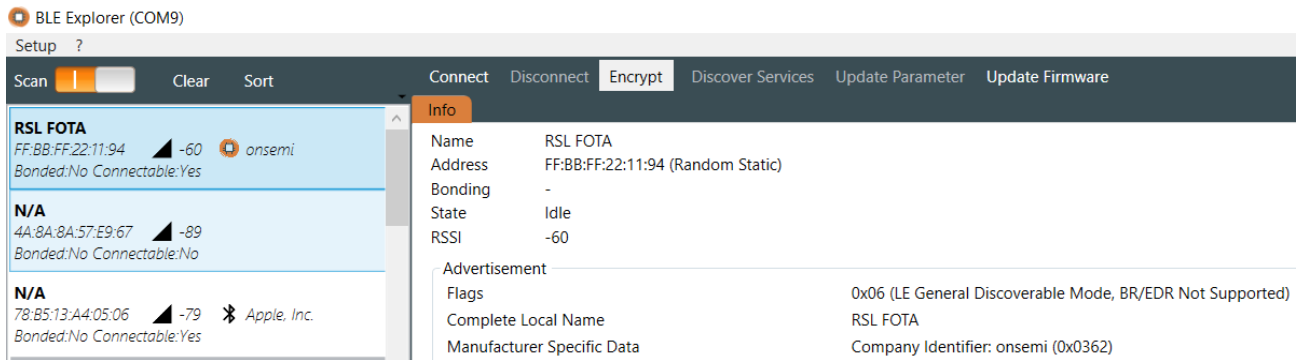

Figure 9. FOTA Running
1. Connect FOTA_GPIO (GPIO1) to ground. After a few seconds, you can see the name **RSL FOTA** on the RSL BLE Explorer, as shown in the "FOTA Running" figure (Figure 9). After checking the name **RSL FOTA**, disconnect FOTA_GPIO from ground.